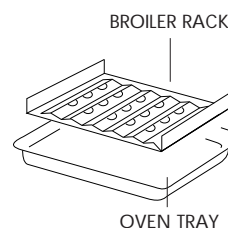

fig. 2
- Place the food on the broiling rack set in the shallow pan as shown in the figure 2). Position wire shelf so that food will be about 2 inches from top heating element. Thick foods such as chicken pieces should be 3 - 4 inches from the element.